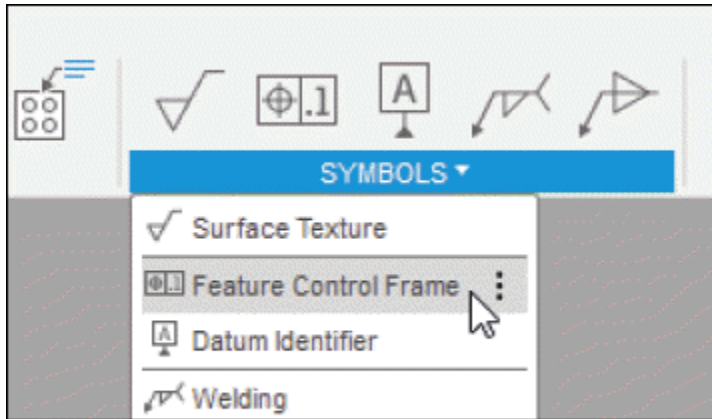

Figure-98. Feature Control Frame tool
- Click on the **Feature Control Frame** tool from **SYMBOLS** panel of **Toolbar**; refer to Figure-98. The tool will be activated.